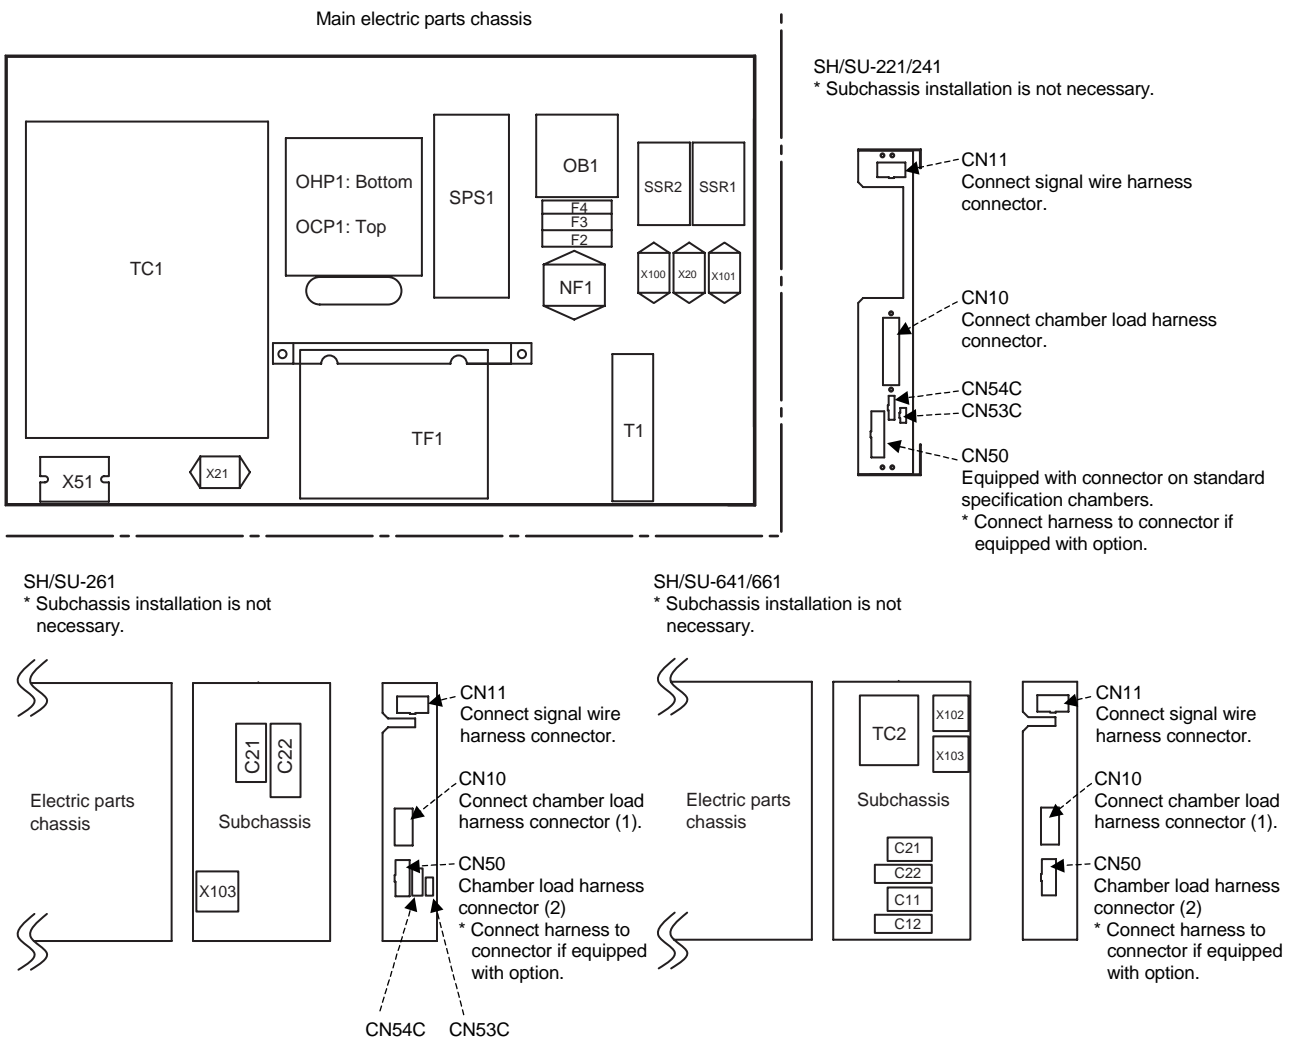

Fig. 5.5 Electric parts chassis layout
3. Identify parts against locations on Fig. 5.5 below, and replace parts.